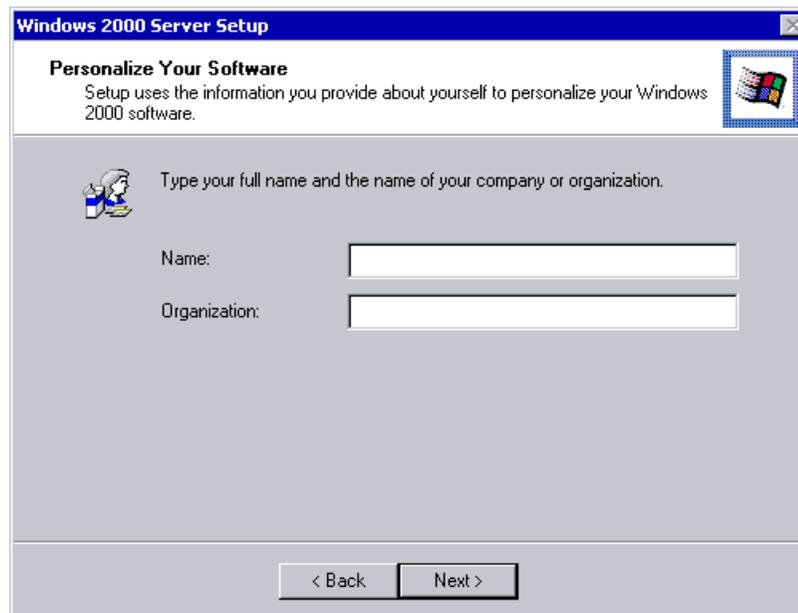

Figure 54. Name and organization
10. Figure 54 appears prompting for your name and organization.